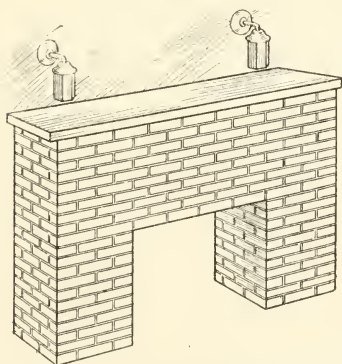

FIG. 253. — The Living-Room Mantel.
**A Fireplace** must be provided for the living-room, and one easily constructed out of four pieces of wood is shown in Figs. 253 and 254. Cut blocks *O* and *P* of the same